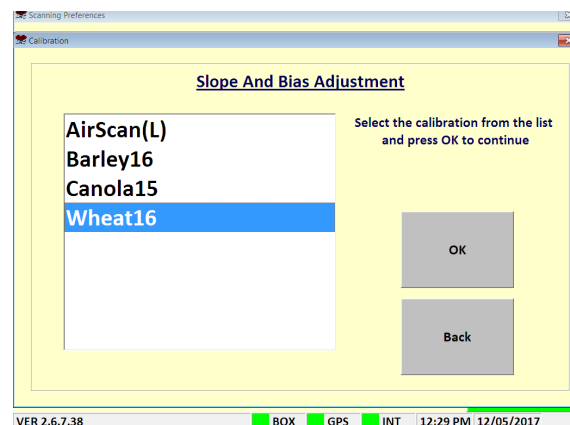

Figure 4.9. Select Calibration Window .
- 4) Highlight the value to adjust. figure 4.9